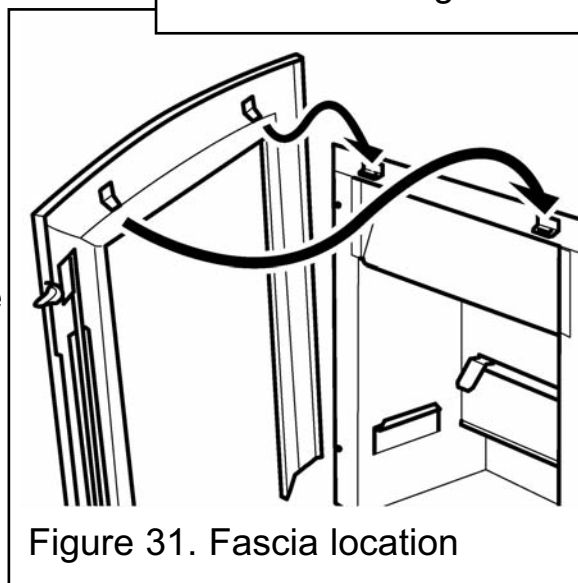

Figure 31. Fascia location
2. Carefully lift the fascia. Do not lift it by the control button (where fitted to the fascia). Place the fascia against the fireplace front surface so that the two retaining plates at the back of the fascia are directly above the two upper retaining brackets at the top of the hotbox. Lower the fascia making sure that the retaining plates locate fully into the brackets on the hotbox (See figure 31). If the inlet pipe runs along the front of the fireplace, the bottom of the fascia will have to be swung forwards to clear the pipe while lowering the fascia.